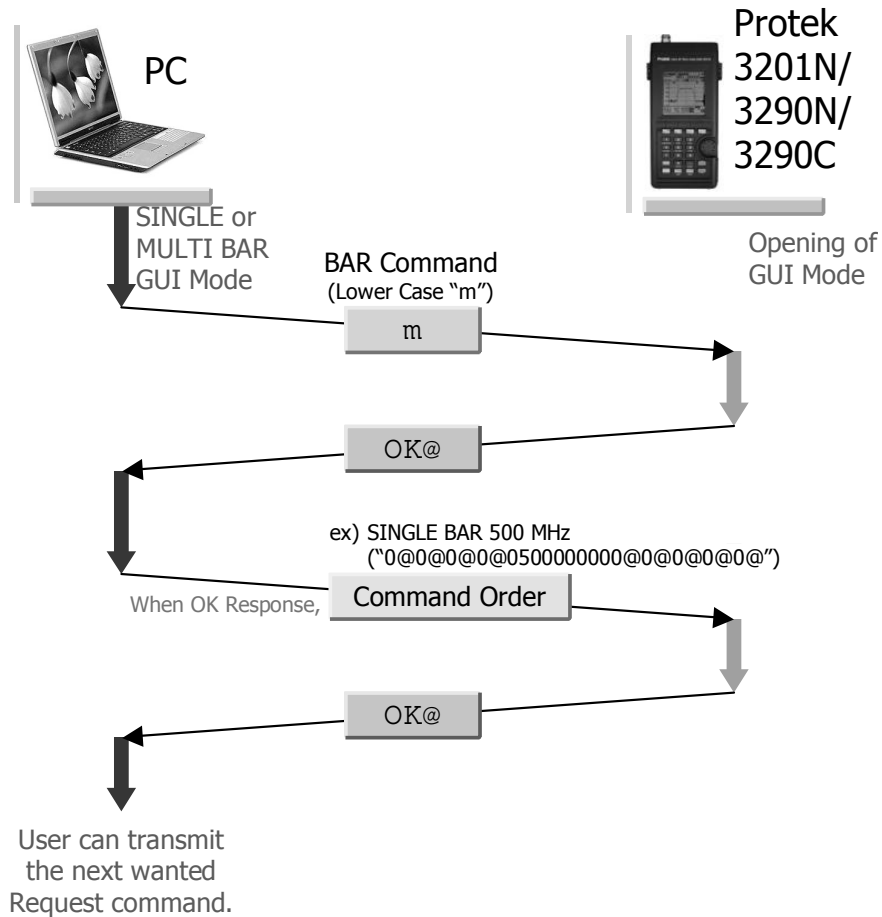

Figure 5.14. "SINGLE or MULTI BAR" Protocol
- 1) Using the "GUI Mode Open", after opening the GUI mode, when closing it again, this protocol is using. Refer Figure 5.14. At first GUI mode is closed and then open the GUI mode again. The "GUI Mode Open" is used.